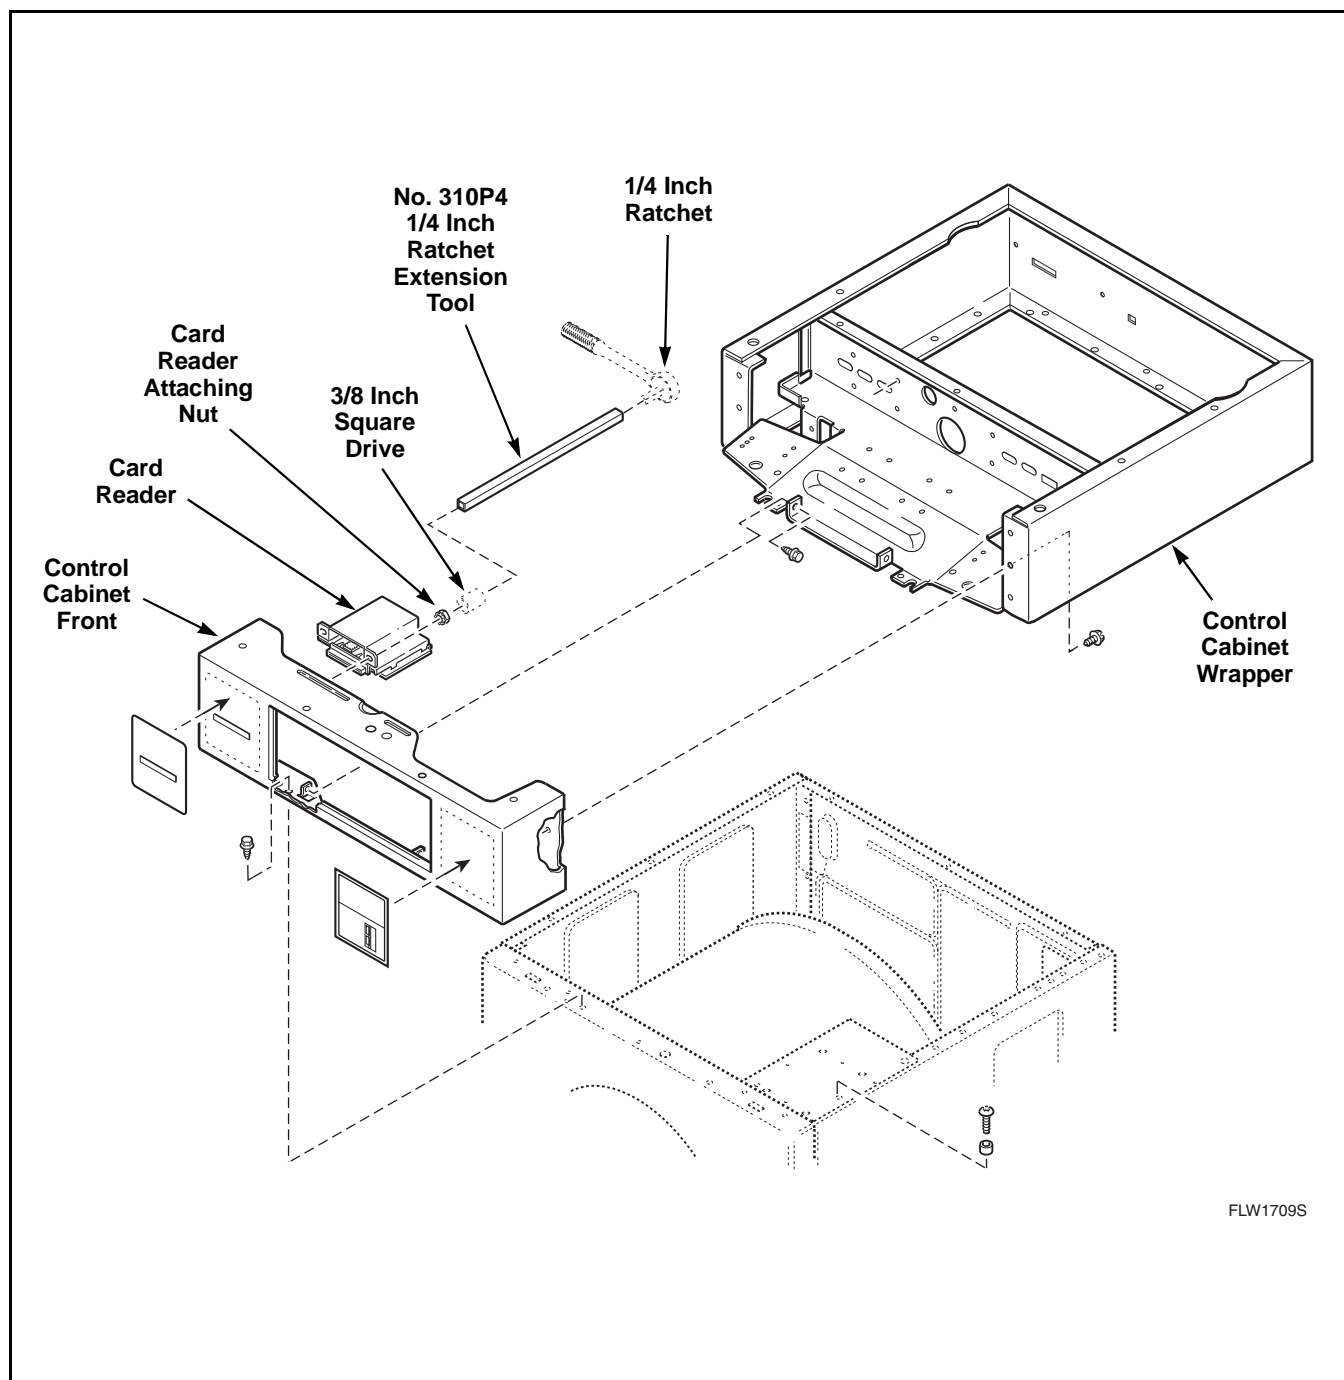

Figure 35
- (6) Disconnect card reader harness at disconnect block.
- (7) Use a 3/8 inch square drive socket, with number 310P4 1/4 inch Ratchet Extension Tool, to remove screws or nuts holding card reader to control cabinet front and carefully remove card reader out through top of control cabinet. Refer to *Figure 35*.
NOTE: A 3/8 inch square drive socket, size 7/16 inch, fits over end of the 310P4 Extension Tool. A 1/4 inch ratchet fits in the other end. Refer to *Figure 35*.
- (1) Carefully place card reader into opening in control cabinet front.
- (2) Using a 3/8 inch square drive 7/16 inch socket with number 310P4 1/4 inch Ratchet Extension Tool, secure card reader to control cabinet front with screws or nuts previously removed. Refer to *Figure 35*. Then tighten screws or nuts firmly.
- (3) Reconnect card reader harness.